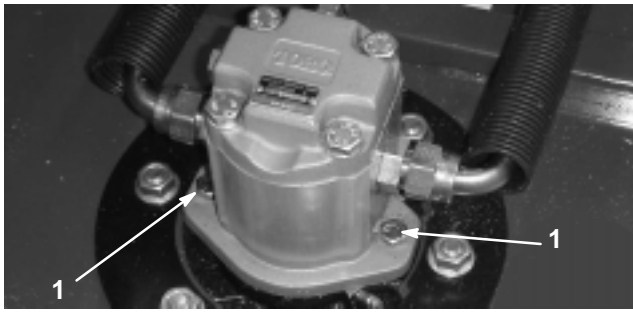

Figure 8
2. Disconnect and remove hydraulic motor from deck (Fig. 8). Cover top of spindle to prevent contamination.
4. Install hydraulic motor to deck (Fig. 8). Make sure O-ring is in position and not damaged.